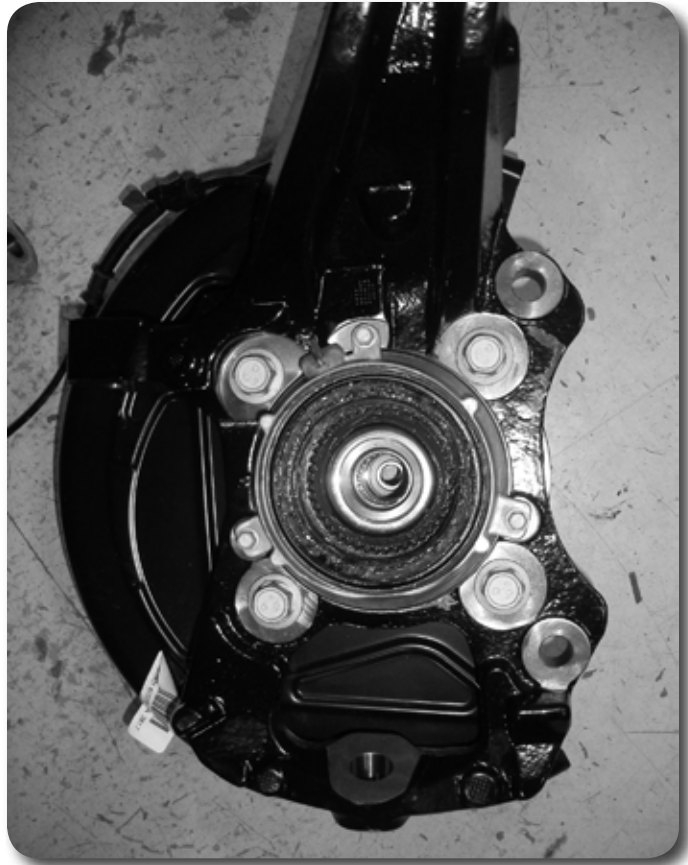

Figure 26
48. Remove the three 6mm bolts mounting the vacuum hub assembly to the inside of the OE knuckle **Figure 26**. Transfer the vacuum assembly over to the new knuckle. Make sure the vacuum port is pointing towards the top. Attach with the OE bolts, tighten bolts securely (about 5-7 ft-lbs).